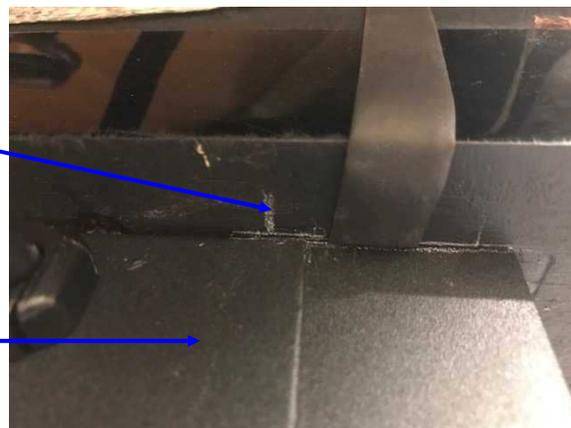

Figure 11A
- D. Remove the rail cover from the keybed. Mount the cover plate to the keybed on the line drawn. The cover plate will overlap the rail cover opening lines drawn. (See fig. 11A)